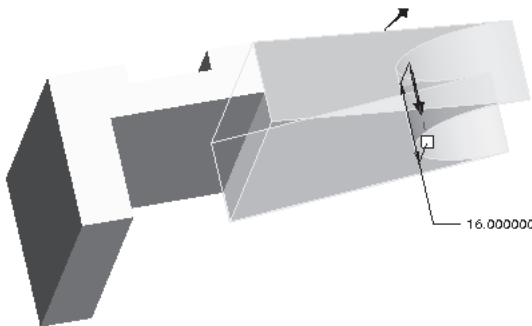

Figure 4-97 Arrow showing the direction of material addition
3. Choose the **Continue with the current section** button. The **Extrude** dashboard is enabled. Use the middle mouse button to orient the model, as shown in Figure 4-97.